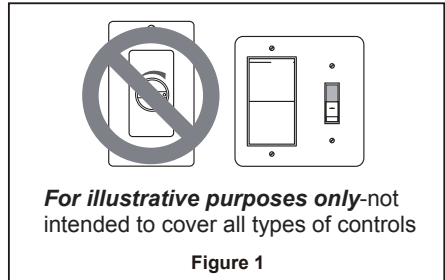

Figure 1
- ☐ 1. Assemble canopy by rotating key slot in canopy over shoulder screw in hanger bracket, taking care not to pinch the wires. Tighten shoulder screw. Fully assemble and tighten second shoulder screw that was previously removed. (Figure 1)
- ☐ 1. **IMPORTANT:** Using a full range dimmer switch (not included) to control fan speed will damage the fan. To reduce the risk of fire or electrical shock, do not use a full range dimmer switch to control the fan speed. (Figure 1)